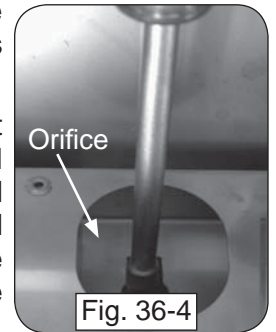

Fig. 36-4
5. Use a $\frac{3}{8}$ " hex nut driver to remove the exposed orifice (Fig. 36-4) and replace it with the correct orifice for the new gas. (See Table 1 at the beginning of this document for orifice sizes.)